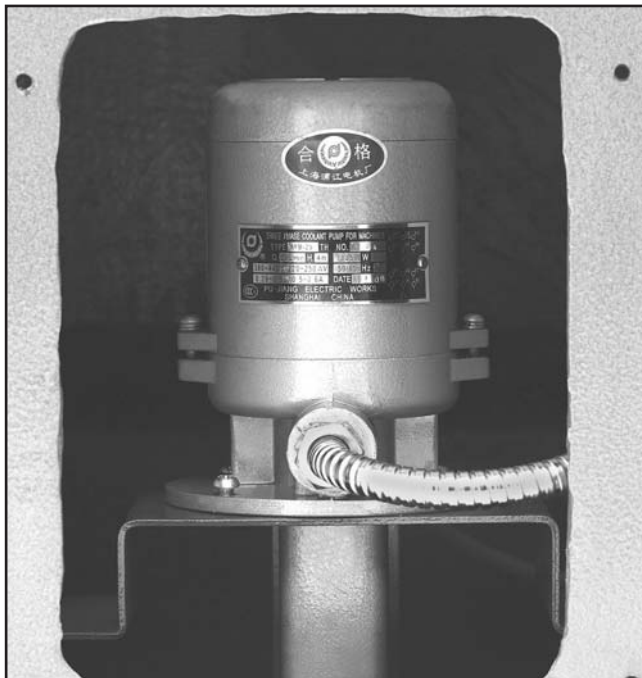

Figure 96. Coolant pump and reservoir.
1. Remove the access cover at the rear of the lathe (**Figure 96**).